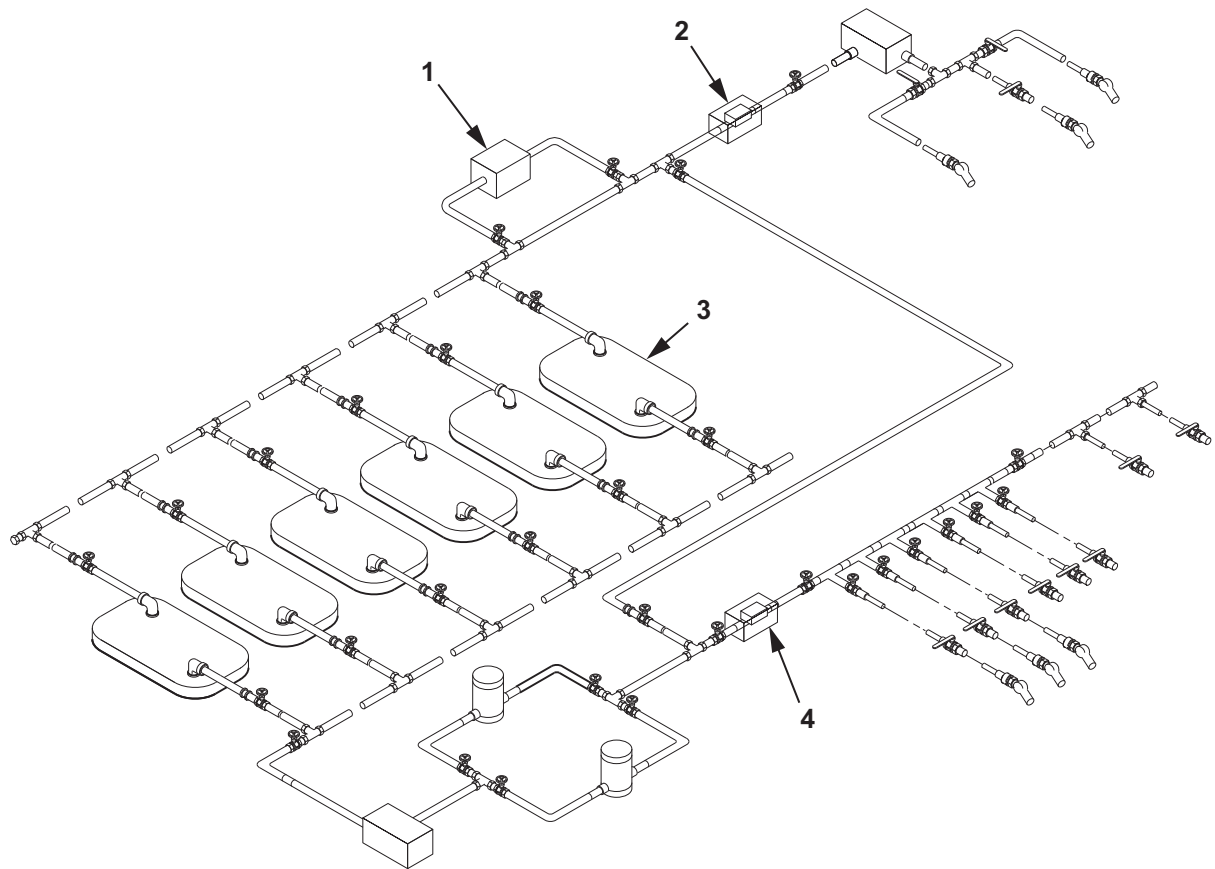

Figure 2. Typical Layout of Fuel System Supply Point (FSSP).
The tank volume meter is installed on the input and output sides of the collapsible fabric fuel tanks (Figure 2, Item 3) and calculates the sum of two flows. The flowrate and total of both flows is calculated and is displayed in a LCD display. The operating temperature range for the meter is -20°F – +178°F (-30°C – +80°C). The meter is battery powered with five 24 VAC/DC internal lithium batteries, which have an average lifetime of 7 years.
The fuel additive injection assembly (Figure 2, Item 1) is a fluid powered, multi-additive injection system designed to inject Fuel System Icing Inhibitor (FSII), Static Discharge Additive (SDA) and Corrosion Inhibitor (CI) additives into fuels. The system is powered and controlled by the flow of fuel and additives through the fluid motor. The system does not operate on external power or require any operators to control the system while in operation. As the flow of fuel either increases or decreases through the system, the fluid motor will either increase or decrease simultaneously.
A flowmeter assembly (Figure 2, Item 2) is used to observe the volume and quantity of fuel flowing from the receipt manifold when fuel is resupplied to the FSSP. A flowmeter assembly (Figure 2, Item 4) is used to observe the volume and quantity of fuel flowing when fuel is dispensed. When fuel flows through the flowmeter assembly the rotor is driven by the fuel passing through a vortex chamber. The volume and rate of fuel flow is transferred to a readout device through the use of a magnetic coupling.